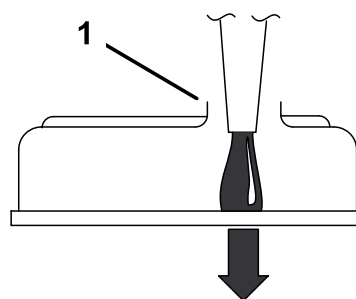

Figure 43
**Important:** Add the oil very slowly and do not block the opening of the filler hole (Figure 43). If you add oil too fast or block the hole, the oil could back up and foul the air intakes, causing engine damage.